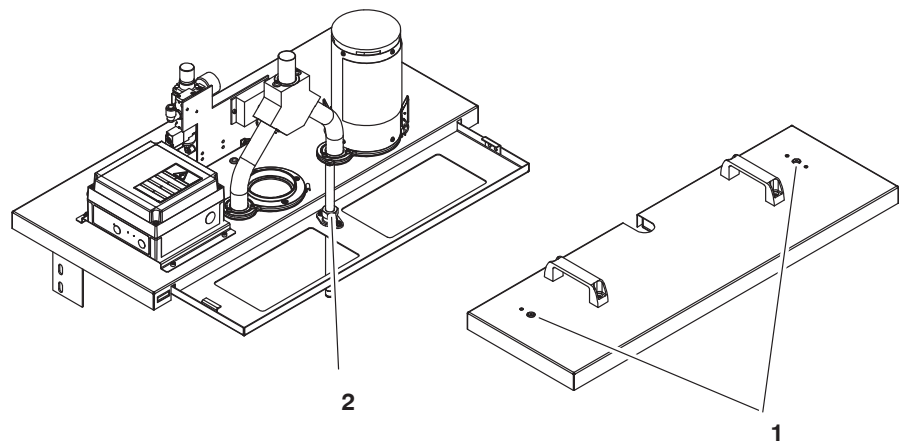

Figure 9 Adjusting the level probe height
1. See Figure 9. Remove the melter tank lid by loosening the two latch screws (1) and lifting it up by its handles.
2. Loosen the hex nut (2) on the level probe holder and slide the probe up or down as desired.